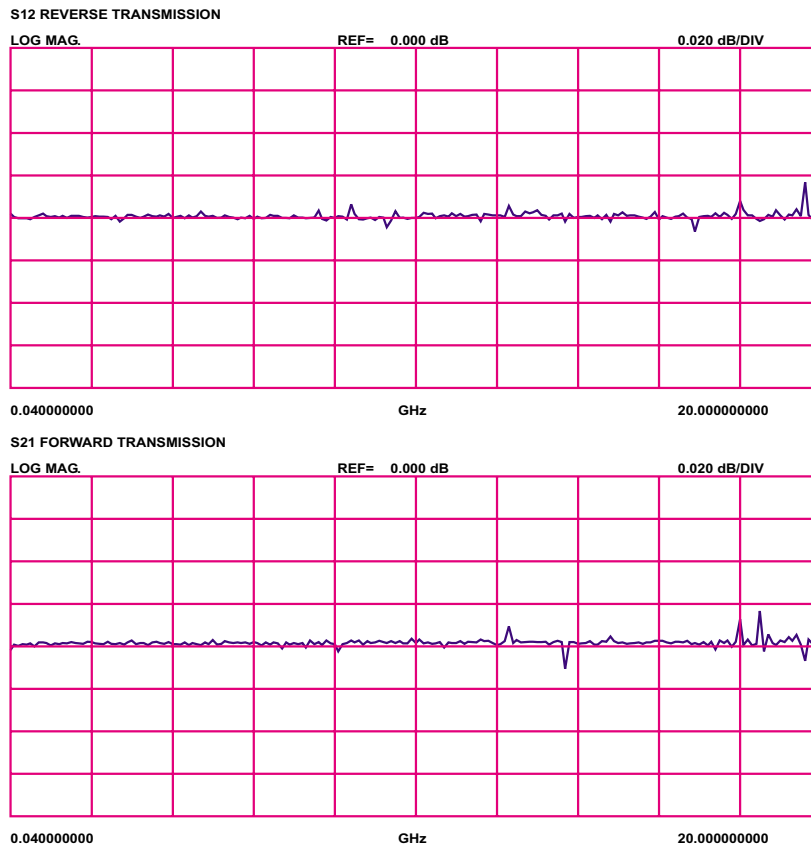

Figure 12-2. High Level Noise Test Waveform
- Step 10.** Verify that the peak-to-peak High Level Noise falls within the area between the two limit lines (Figure 12-2, following page).